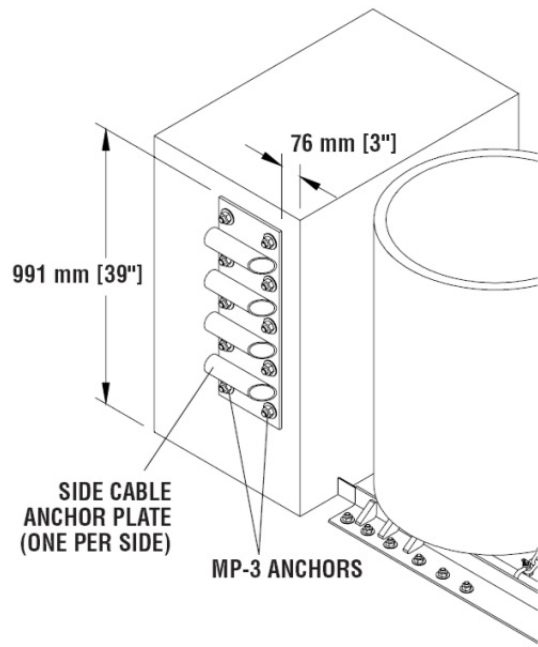

Figure 16
When properly deployed, the top of the Side Cable Anchor Plates should be 991 mm (39") from the road surface. The front edge of the Side Cable Anchor Plates should be 76 mm [3"] from the front face of the Backup to avoid reinforcing steel. The tapered side of the Side Cable Anchor Plates should face the front of the system (see page 19). Use the holes in the Side Cable Anchor Plates as templates to match drill ten (10) holes per side of Backup, 22 mm [7/8"] diameter x 140 mm [5 1/2"] deep into the Concrete Backup. Use horizontal MP-3[®] kit to assemble the (20) 3/4" diameter x 6 1/2" long studs using instructions included with kit. After grout is hardened, use 3/4" nuts and flat washers included with MP-3[®] kit to attach Side Cable Anchor Plates, one for each side, to Concrete Backup (see Figure 16 on p. 19).